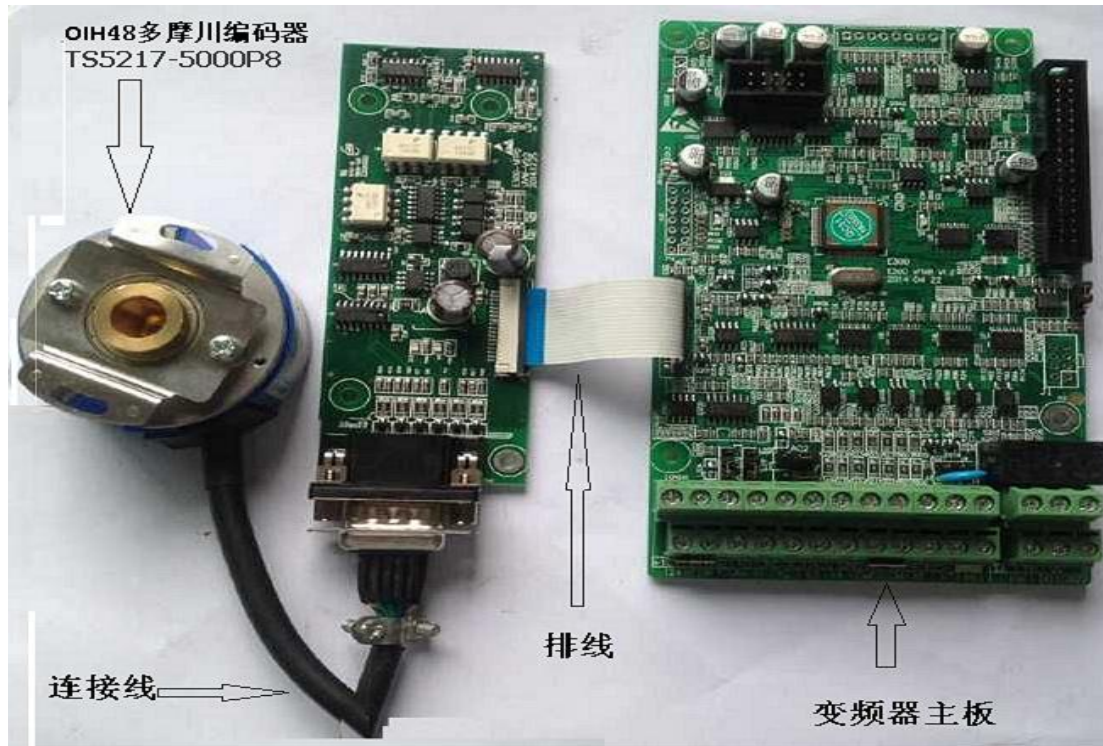

Figure 1: PG-UVW test
- 2) Connect the UVW-PG card to the rotary photoelectric encoder. As shown in Figure 1 below: